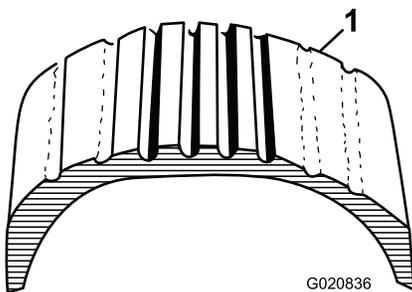
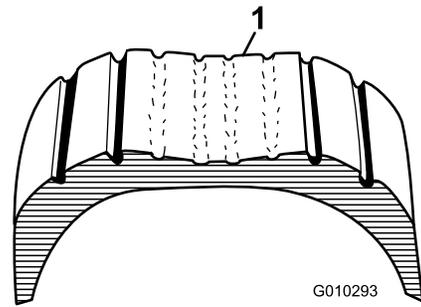

Figure 19
Figure 20
- Visually inspect the tires for damage and wear (Figure 19 and Figure 20).